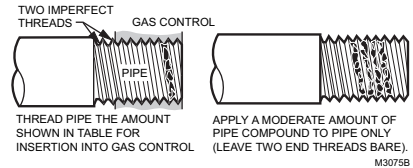

Fig. 3. Use of Moderate Amount of Pipe Compound.
4. Apply a moderate amount of good quality pipe compound (DO NOT use Teflon tape) to pipe only, leaving two end threads bare. On LP installations, use compound resistant to LP gas (See Fig. 3).